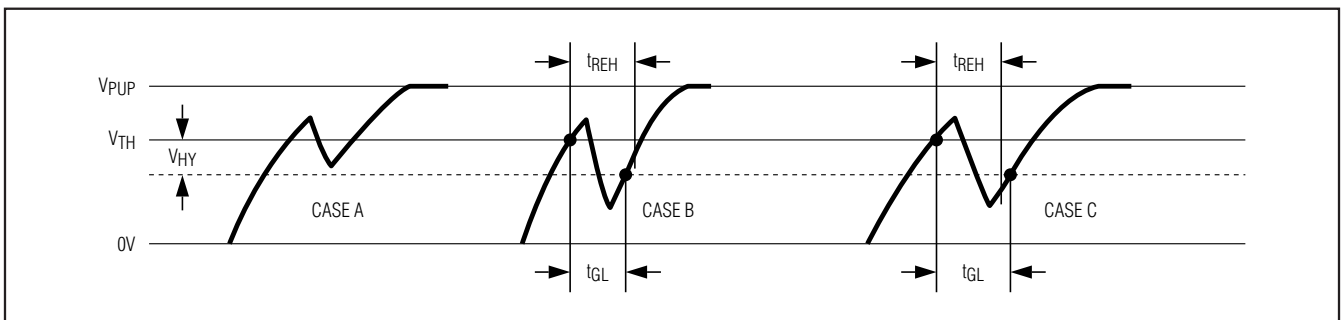

Figure 12. Noise Suppression Scheme
- 2) There is a hysteresis at the low-to-high switching threshold V_{TH} . If a negative glitch crosses V_{TH} but does not go below $V_{TH} - V_{HY}$, it will not be recognized (Figure 12, Case A). The hysteresis is effective at any 1-Wire speed.
- 3) There is a time window specified by the rising edge hold-off time t_{REH} during which glitches are ignored, even if they extend below the $V_{TH} - V_{HY}$ threshold (Figure 12, Case B, $t_{GL} < t_{REH}$). Deep voltage drops (Figure 12, Case C, $t_{GL} > t_{REH}$).
or glitches that appear late after crossing the V_{TH} threshold and extend beyond the t_{REH} window cannot be filtered out and are taken as the beginning of a new time slot (Figure 12, Case C, $t_{GL} \geq t_{REH}$).